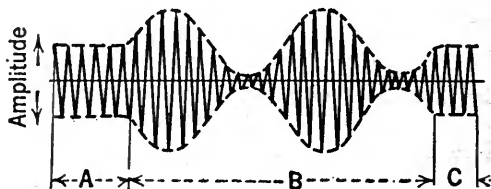

FIG. 2
Fig. 2 shows how the modulated wave, to conform to the voice and music variations, is produced. At A we have the constant amplitude of the carrier wave but between A and C (B) the wave is of a continually varying amplitude. This is due to the audio wave being super-imposed on the carrier wave.